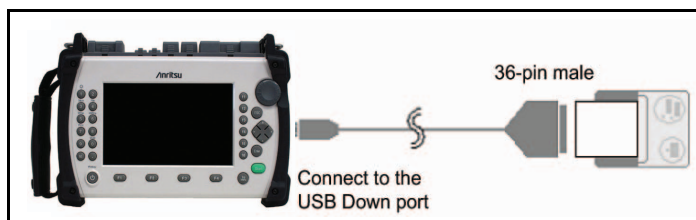

Figure 5-33: Connecting the BL-80R11 Printer
1. Connect the BL-80R11 or SD1-31 printers to the MT9083 Series as shown in Figure 5-33, and then power up the printer.